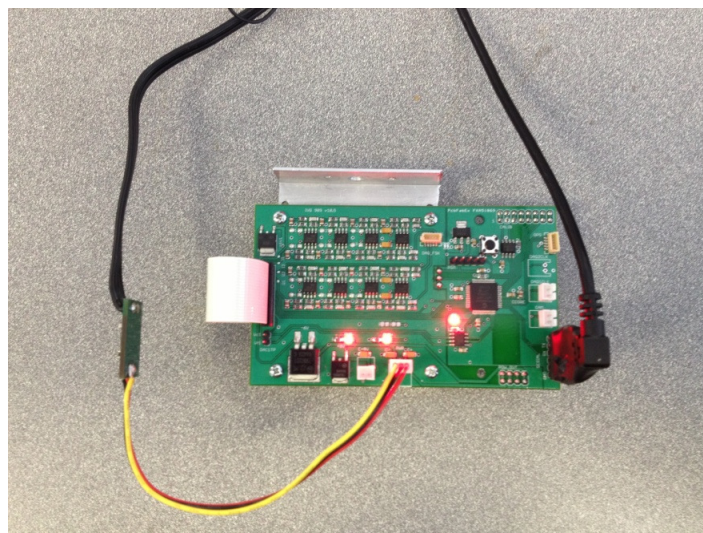

Figure 4: Device with power LEDs and operating mode LED activated.
Step 4: From this point, the device can be switched between standby and operating modes using the serial terminal. To move from the standby mode to the operating mode an 's' must be sent over the serial channel and to move from the operating mode to standby mode an 'x' over the serial channel. In operating mode an additional LED will activate as seen in Figure 4.